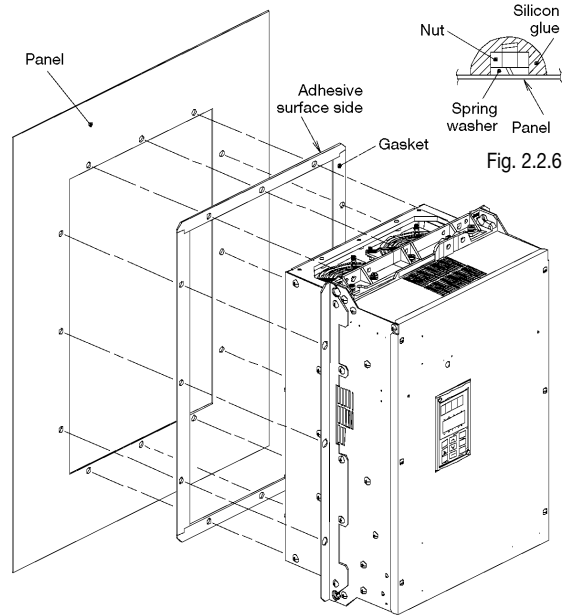

Fig.2.2.5
2. Install the drive unit and tighten the mounting bolt and nut. (Tightening torque: 119 lbs-inch [M8], 425 lbs-inch [M12] ). Mounting hardware to be supplied by customer. (refer to figure 2.2.5)